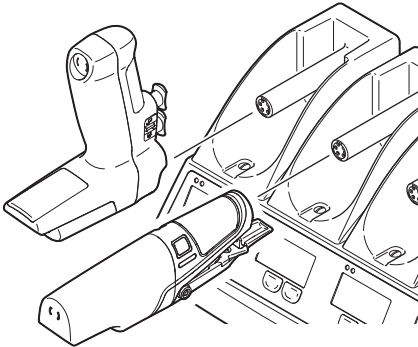

Figure 6 – Stryker F1 SmartGrip Battery Module Orientation
- On the Stryker F1 Universal Battery Charger, always install Stryker F1 SmartGrip® Battery Modules in the proper orientation (figure 6).